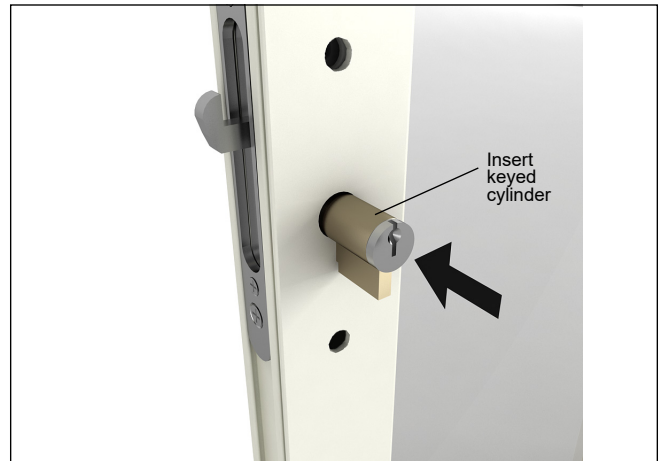

Figure 8
11. Place keyed cylinder in keyed cylinder hole. See figure 8.